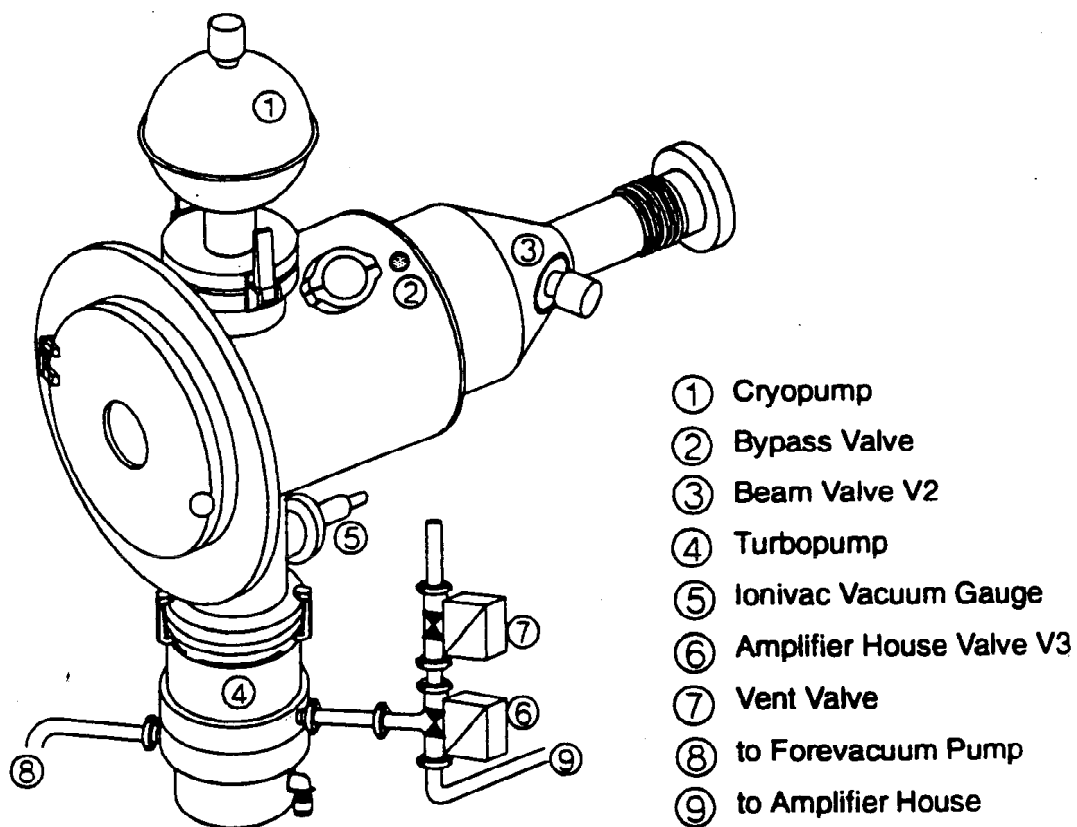

Figure 5
5. **Begin filament heating** (Ensure all samples have been pre-heated, the first sample to be analyzed is in the “IS” position and the beam valve is closed...figures 5 & 6).
- f. When auto-heating is complete, open the beam valve and press “Return Main Keys” (figure 5).
- d. After getting the best count rate from the barrel focus, adjust the “shielding plate” focus knob. (figure 5)